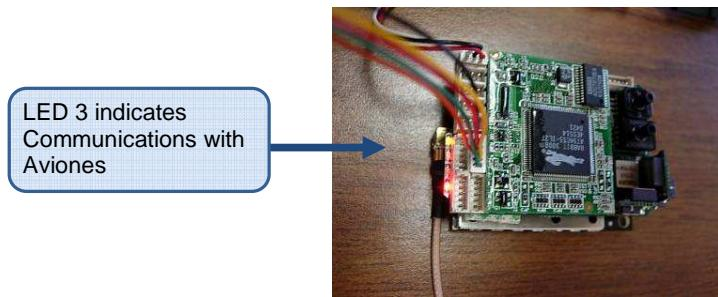

Figure 7-10 LED 3 blinking indicates communications between autopilot and Aviones
15. You should now have communications between the Virtual Cockpit and the Autopilot over the normal communications link and communications between Aviones and the autopilot over the serial cable. To verify communication between Aviones and the autopilot, the right-most LED on the autopilot should be blinking rapidly (see Figure 7-10). This indicates that the autopilot is receiving sensor information from Aviones.